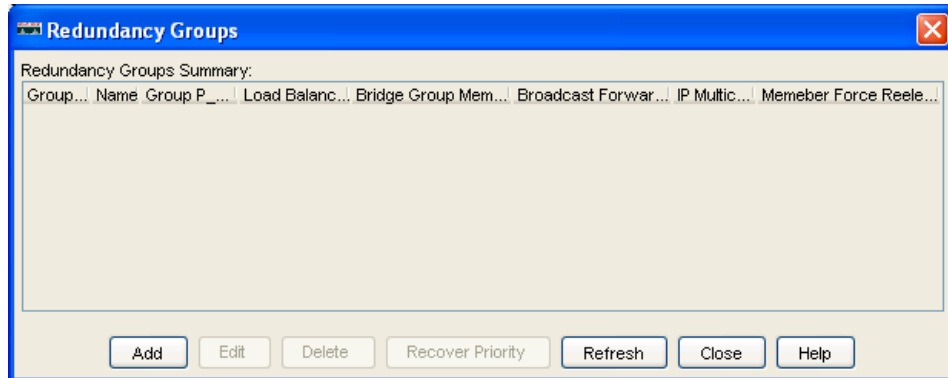

Figure 7-26 Redundancy Groups window before a Redundancy groups has been created
- After BG1 and BG 2 have been created, close the Bridging window and from the main window of the Element Manager, click **Ethernet** → **Redundancy**. This opens a window similar to Figure 7-26.